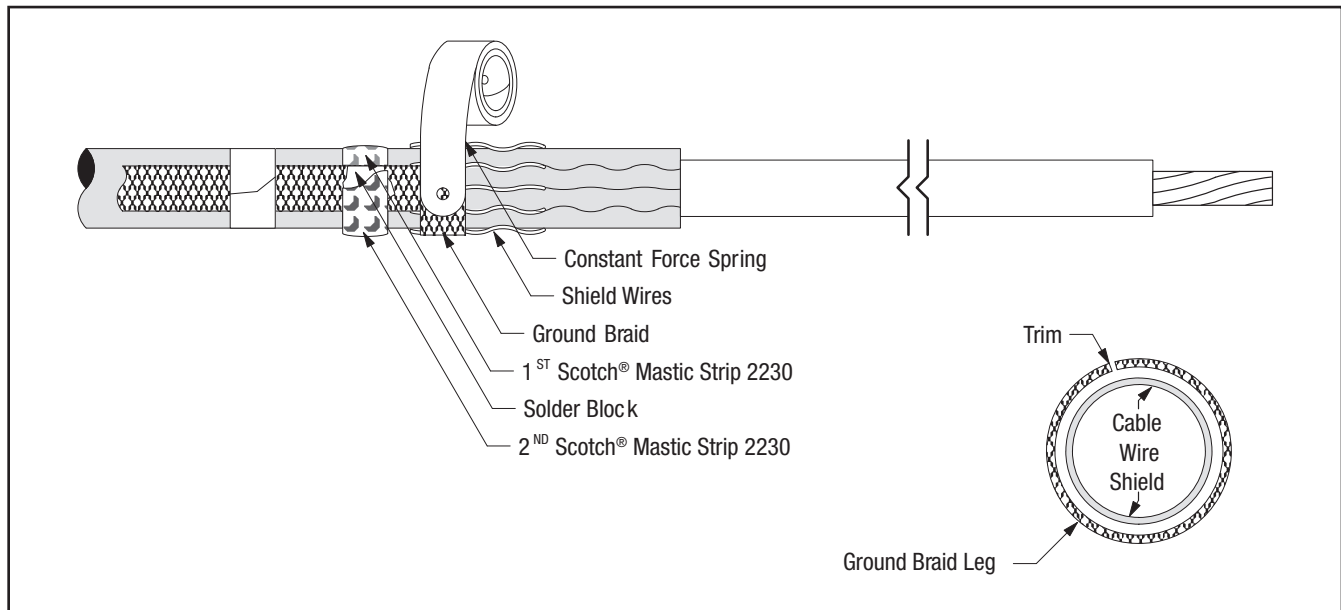

Figure 21
- 13.3 Wrap ground braid around cable shield wires one complete wrap, trim excess to prevent overlap and secure in place with constant force spring. Wrap spring in same direction as ground braid (Figure 21). Cinch (tighten) the spring after wrapping the final winding.
- 13.4 Select second Scotch® Mastic Strip 2230 from kit and remove white release liners. Apply a second single wrap of mastic over solder block on ground braid and previously applied mastic (Figure 21). Cut off excess.